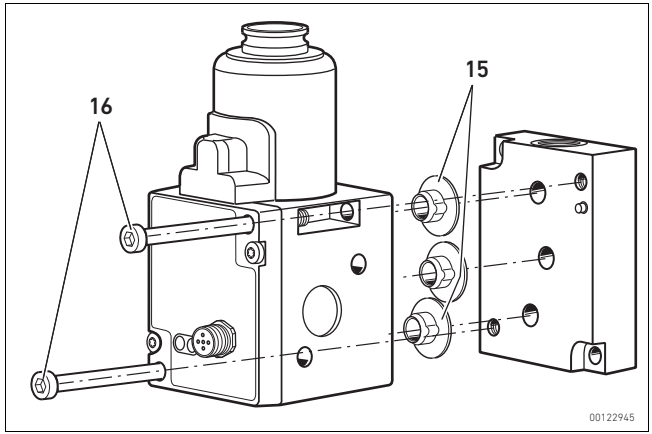

Abb. 5: Assembling the ED05 pressure regulator on a base plate
3. Insert both of the M6 x 75 screws (**16**) in the two through holes (see Fig. 5 on page 64) and tighten.